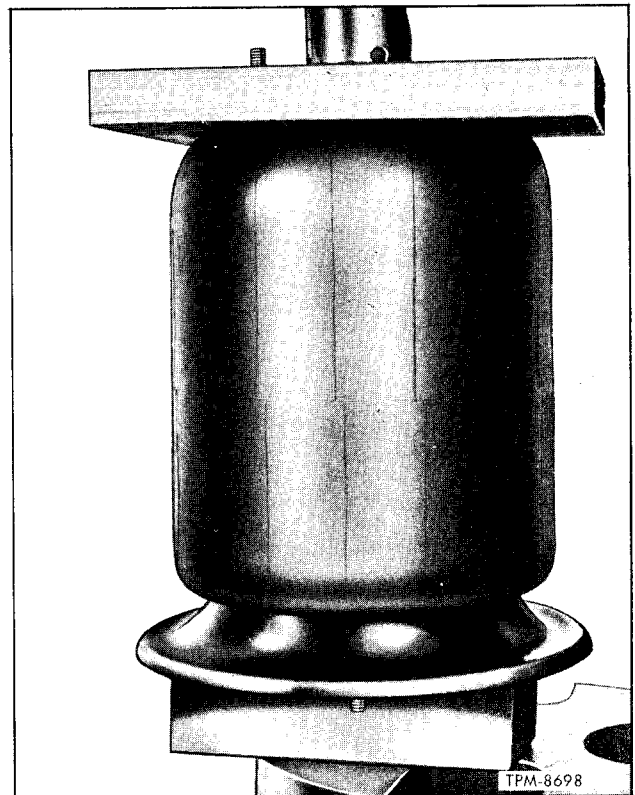

Figure 21—Bellows Loop Rolled over Piston
9. Operate arbor press to compress air and cause lower end of bellows to fold over piston. Continue to press until a dimension of approximately 12" overall height is obtained (fig. 21).